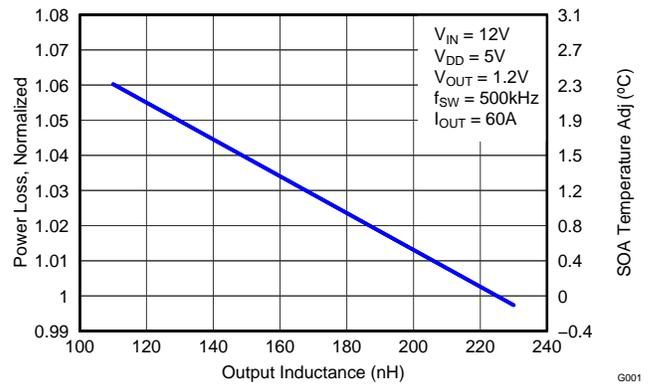

Figure 10. Normalized Power Loss vs Output Inductance
- Normalized Power Loss for output inductor \approx 1.01 (Figure 10)
- SOA adjustment for output inductor $\approx 0.5^{\circ}\text{C}$ (Figure 10)